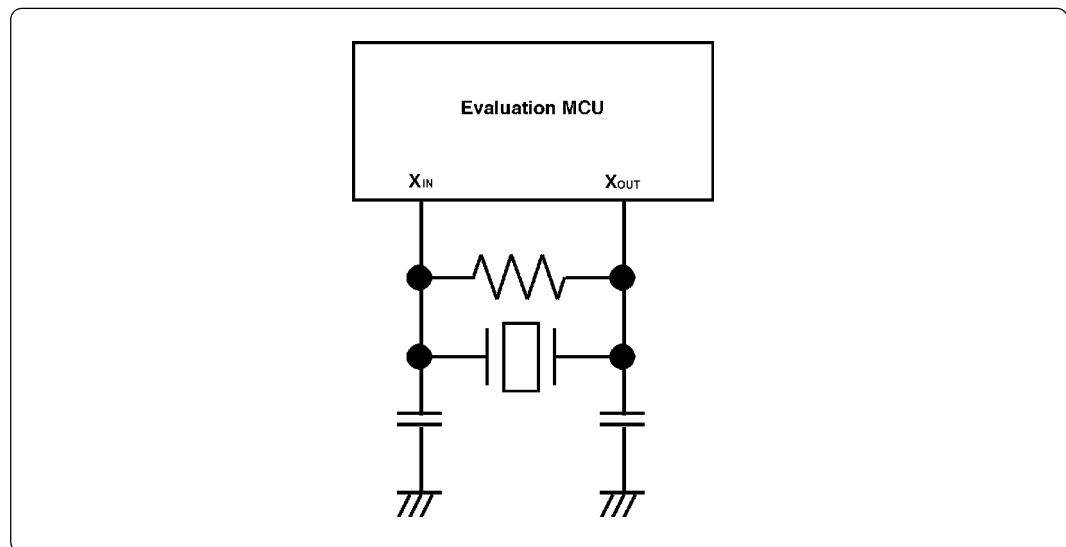

Figure 3.5 Circuit in which oscillation does not occur (same for X_{CIN} - X_{COUT})
- Make note of the fact that in the oscillator circuit shown in Figure 3.5 where a resonator is connected between the X_{IN} and X_{OUT} pins, oscillation does not occur because a flexible cable, buffer IC and other devices are used between the evaluation MCU and the target system. It is same for sub-clock oscillator circuits (X_{CIN} and X_{COUT}).
(2) Changing the Internal Oscillator Circuit of Emulation Pod